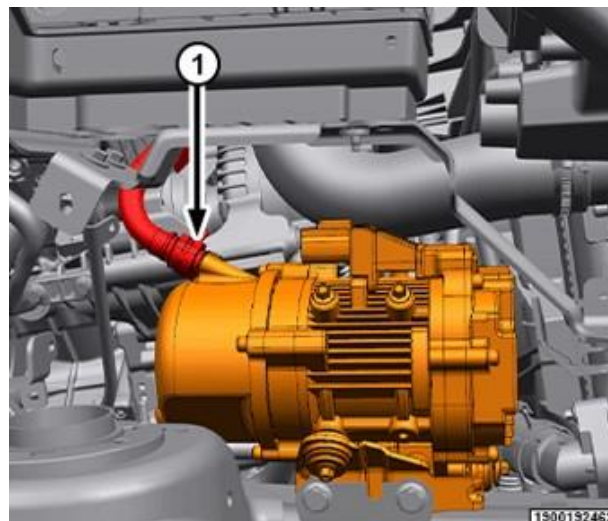

Figure B9 – EHPS Pump Return Hose
20. Disconnect the EHPS pump return hose from the EHPS pump (Figure B9).
42. Install the EHPS pressure pipe to the EHPS pump then install the EHPS pump pressure pipe bolt (Figure B9). Tighten the pressure pipe bolt to:
43. Connect the return hose to the EHPS pump and secure with the hose clamp (Figure B9).